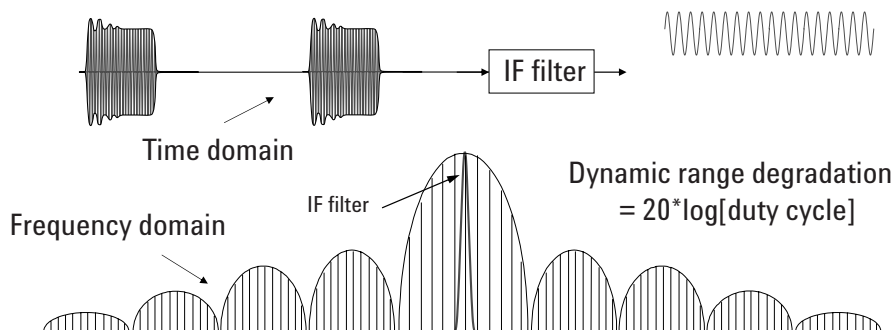

Figure 10. Narrowband (asynchronous) detection
Narrowband detection is used when the bandwidth of the receiver is too small to contain the significant energy of the pulsed-RF spectrum. Since the pulsed-RF signal cannot be fully captured, the analyzer goes to the other extreme: filter everything away except for one spectral component, as shown in Figure 10. With narrowband detection, all of the pulse spectrum is removed by analog or DSP-based filtering except for the central frequency component, which represents the frequency of the RF carrier. After filtering, the pulsed-RF signal appears as a sinusoidal (CW) signal, so there is no need to synchronize the analyzer samples with the incoming pulses, and a pulse acquisition trigger is not required. Because an acquisition trigger is not used for narrowband detection, the technique is also called asynchronous acquisition mode.